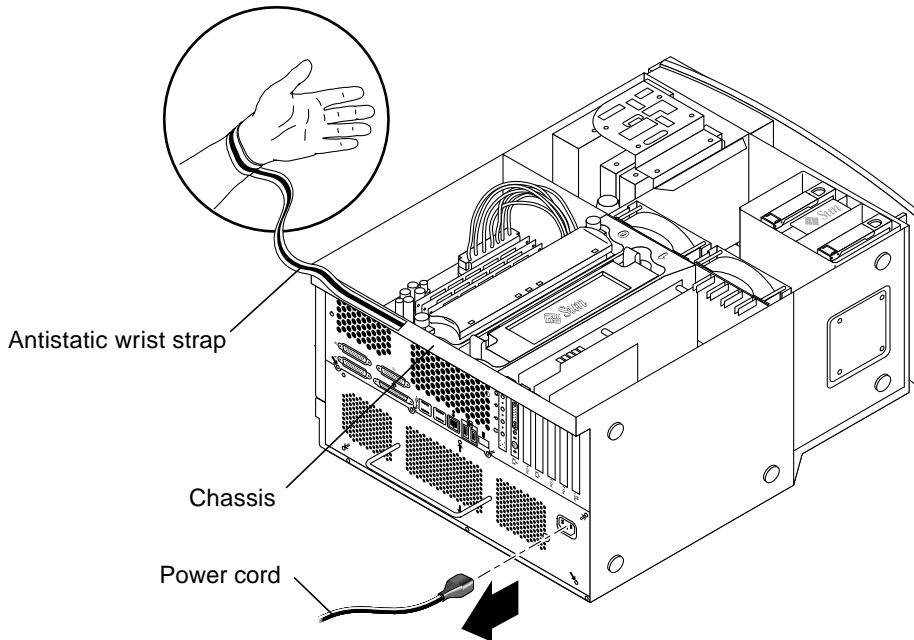

FIGURE 5 Attaching the Antistatic Wrist Strap to the Chassis
1. Place the workstation on its side on a work surface, open side facing up (see FIGURE 5).
4. Attach the copper end of the wrist strap to the chassis (see FIGURE 5).